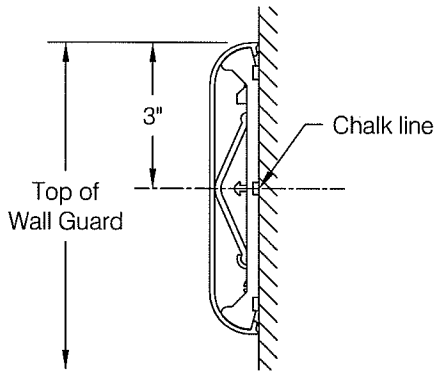

fig 1
- 2125C.1 accent strips (5) and textured
**Step 1:** Determine top of wall guard height and snap a chalk line 3" below to locate centerline of wall guard and to provide a reference line for locating Quik Clip retainers, see **fig 1**.